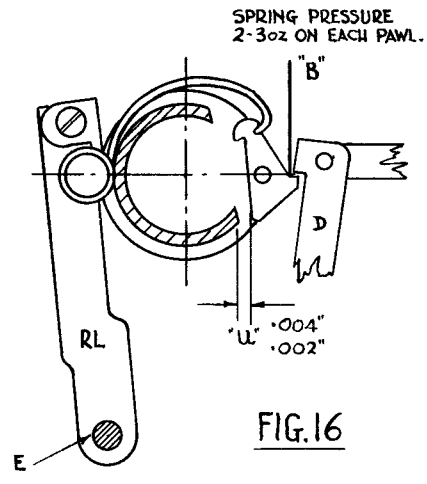

FIG. 16
28. TURN THE CAM SLEEVE UNTIL THE RETENTION ROLLER BOTTOMS IN ITS HOLLOW & THE DETENT ENGAGES THE PAWLS. (FIG. 16). FORCE "B" & DIMENSION "u" MUST BE SATISFIED BY ADJUSTING ECCENTRIC E. LOCK BY NUT PROVIDED.